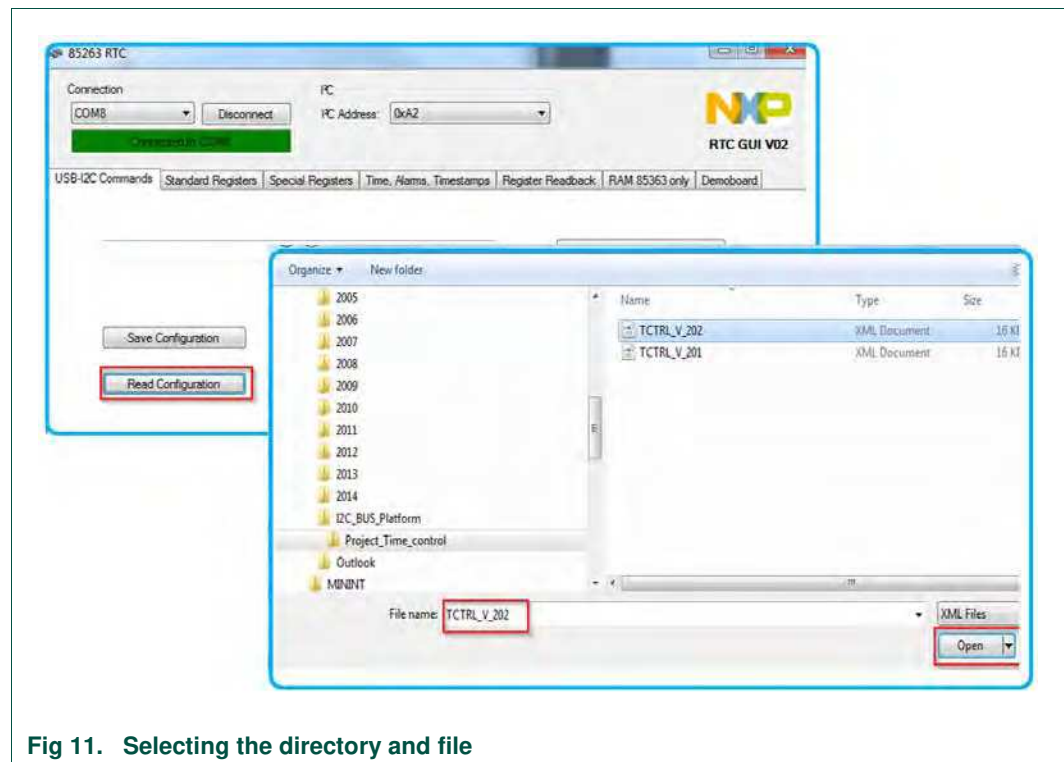

Fig 11. Selecting the directory and file
1. Read back a saved configuration file with *Read Configuration* (see Fig 11):